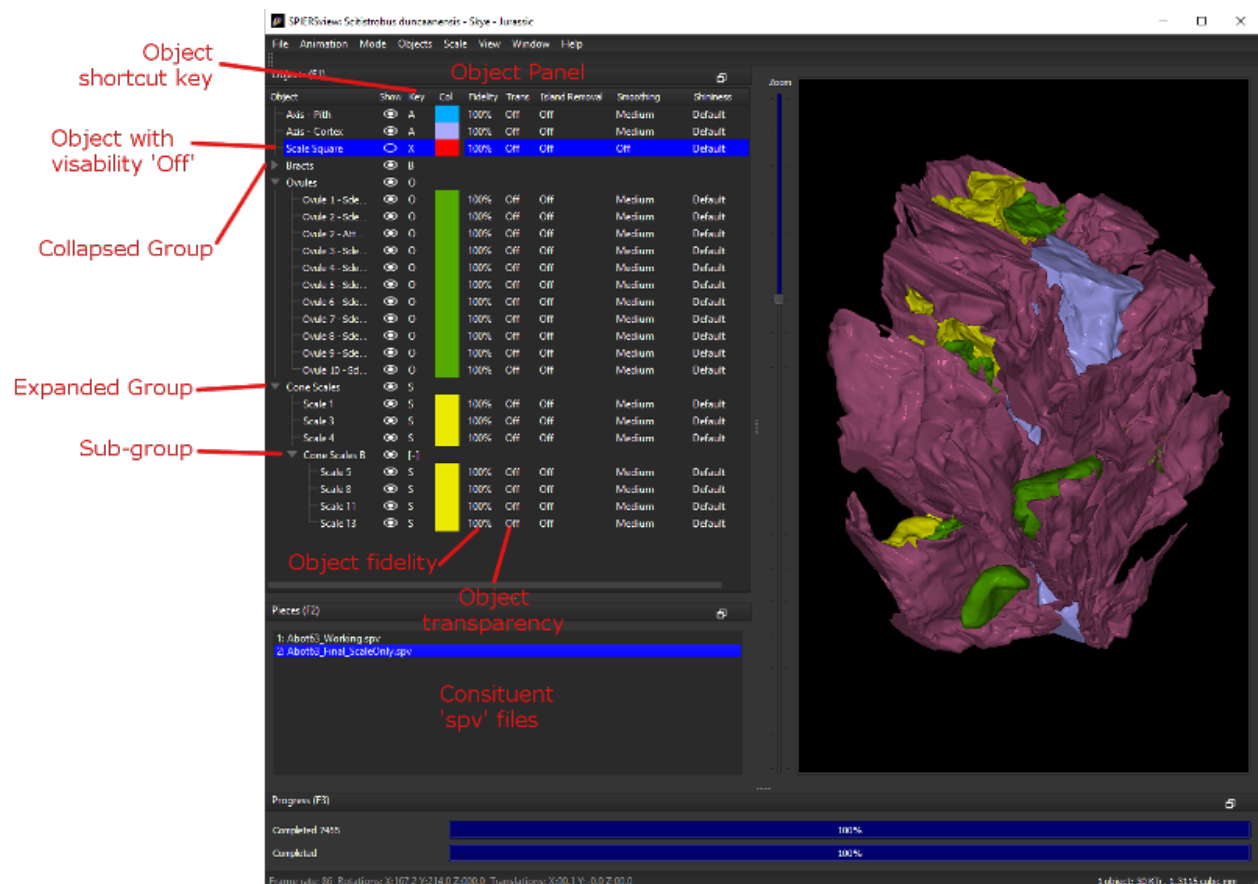

Fig. 2: Figure 2. Default anatomy of a SPIERSview object pannel
Objects can be combined into groups; groups can also exist as subgroups within other groups (see Fig. 2), enabling the user to build up a hierarchy of objects to describe an anatomy. For instance, an arthropod model might include a group called ‘appendages’ – this in turn might include a subgroup called ‘cephalic’ appendages, which might in turn include a ‘mandibles’ group, consisting of a left and right mandible. Object grouping not only provides a convenient way to explain relationships, but also allows visibility to be controlled for sets of objects – in the above example for instance a key could be assigned to the appendages group, allowing the entire appendage set to be quickly hidden or shown.
Groups are indicated in the panel in a standard way (Fig. 2); they can be expanded or collapsed to show their contents. Groups only have two properties; their shortcut key, and their visibility.
Turning visibility off for a group does not alter the individual visibility settings of contained objects (or groups), but overrides them so they are all hidden. In Figure 2 for instance, all objects in the ‘Trunk Apps’ group are currently invisible (whatever their individual visibility setting), as this group is set to invisible. Once visibility is turned on again for the parent group, the individual visibility settings of its contained objects (or groups) are used again.
Objects listed in the object panel have seven properties detailed in columns to the right of the name (see Fig. 2; not all columns are visible at default panel size). The name (1st column), visibility (2nd column), shortcut key (3rd column) and display colour (4th column) are all modified simply by double-clicking. Note that display colour has no effect for VAXML/PLY datasets where the imported object has surface colour. The properties in the right hand five columns (Fidelity, Transparency, Island Reduction, Smoothing and Shininess) are set using commands on the object menu. Of these, only transparency and shininess are available in *Finalised/VAXML* mode.
datasets (e.g. part and counterpart of a fossil). Each ‘.spv’ file incorporated is known as a *piece*. The *Pieces panel* (see Fig. 2) shows all the pieces making up the currently open file – if no extra pieces have been imported, there will be only one such piece.